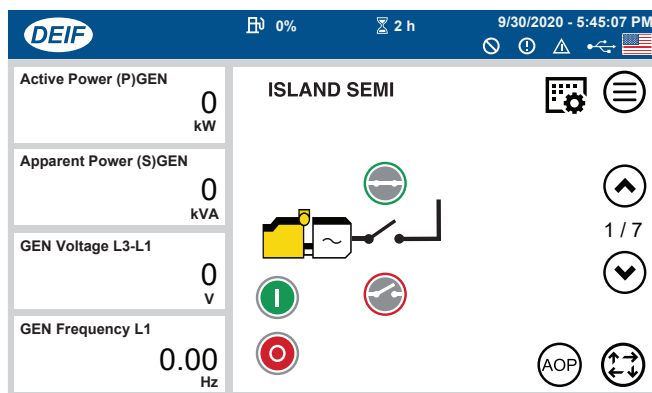

Figure 130. Home Screen (1 of 7)
15. Verify that the **Home** screen (1 of 7) is displayed. See Figure 130.
23. Repeat steps 13–15 to return to the **Home screen** (Figure 130).
30. Perform steps 13–15 to return to the **Home screen** (Figure 130).